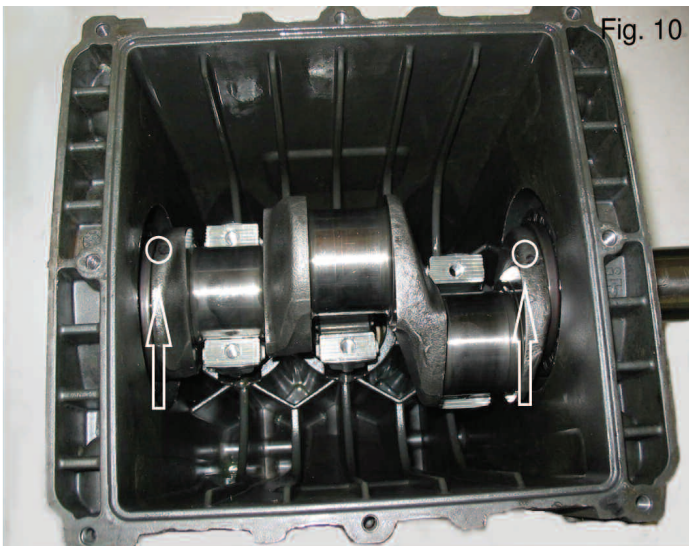

Fig. 10
- B) Push the piston guides and connecting rods forward so you can remove the pump crankshaft from the side. On the crankshaft, you will find marks (see Fig. 10) that must be turned towards the operator so the crankshaft can be easily extracted. Note: to extract the piston guide, it is necessary to remove the ceramic plunger and wiper first.